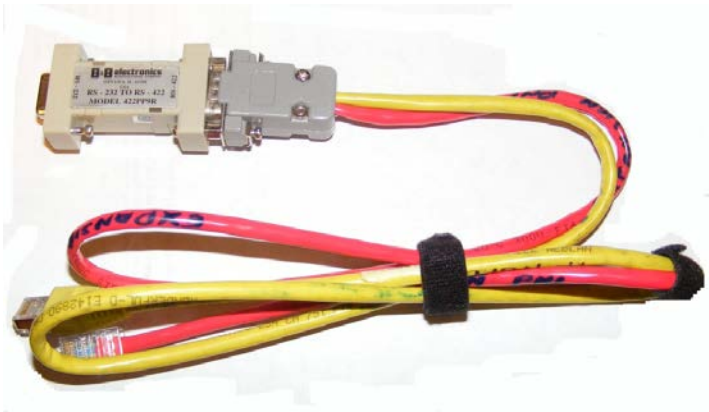

Figure 14-1: Example converter cable
- RS232/RS422 adaptor (see **Figure 14-1: Example converter cable**).